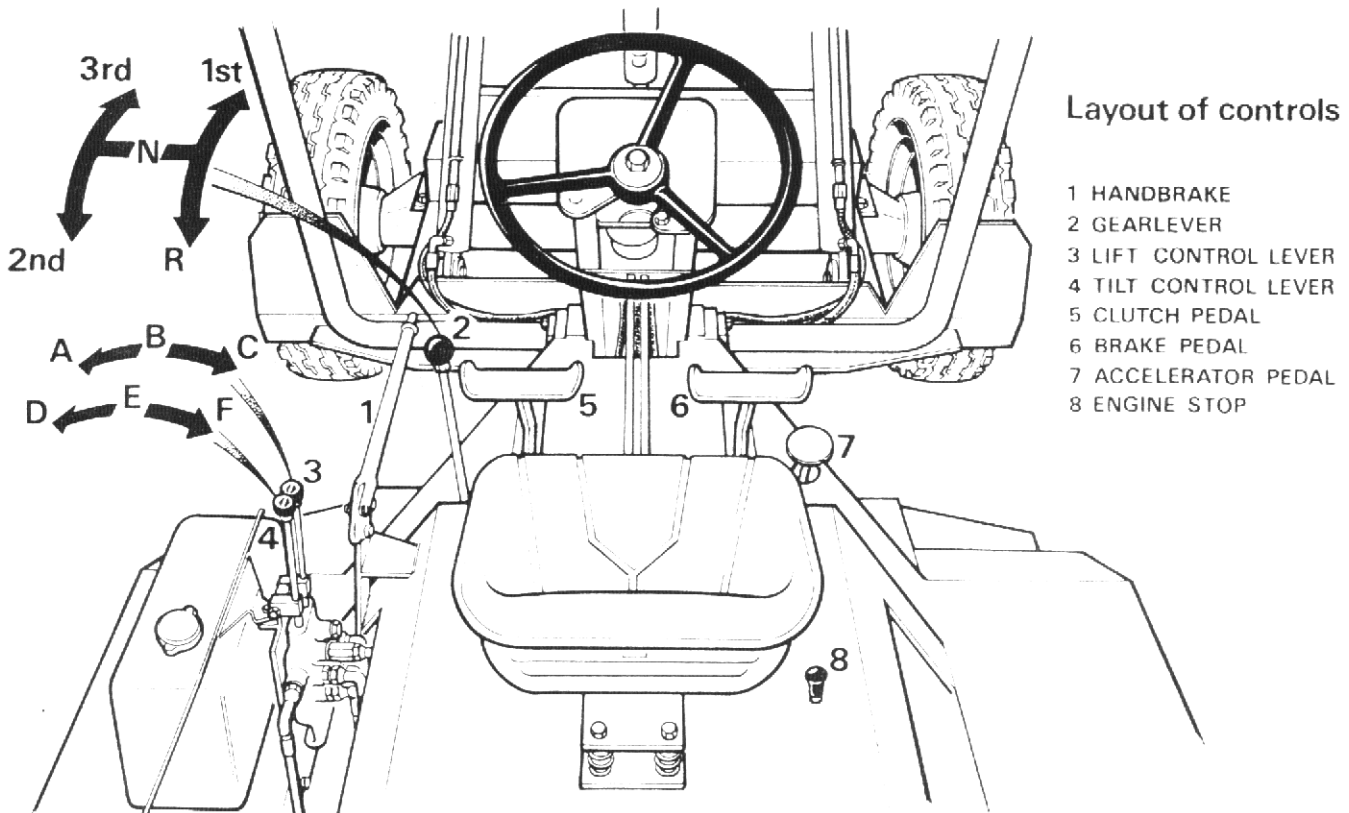

FIG.1
Pull up stop control knob (See fig. 1) and hold in its fully raised position until engine stops. Release stop control when engine has ceased to turn.
The 4FL-2500 is fitted with forward gears (1), (2), (3), and one reverse gear (R), (See fig. 1). When changing gear the clutch pedal is used in the normal manner.
Each lever is spring biased to the centre (hold position) and can be moved either side of this position (See fig. 1) the lift control lever (3) positions are UP (A), HOLD (B) and DOWN (C). The tilt control lever (4) positions are FORWARD (D), HOLD (E) and BACKWARD (F), when either lever is released it will automatically return to the HOLD position.